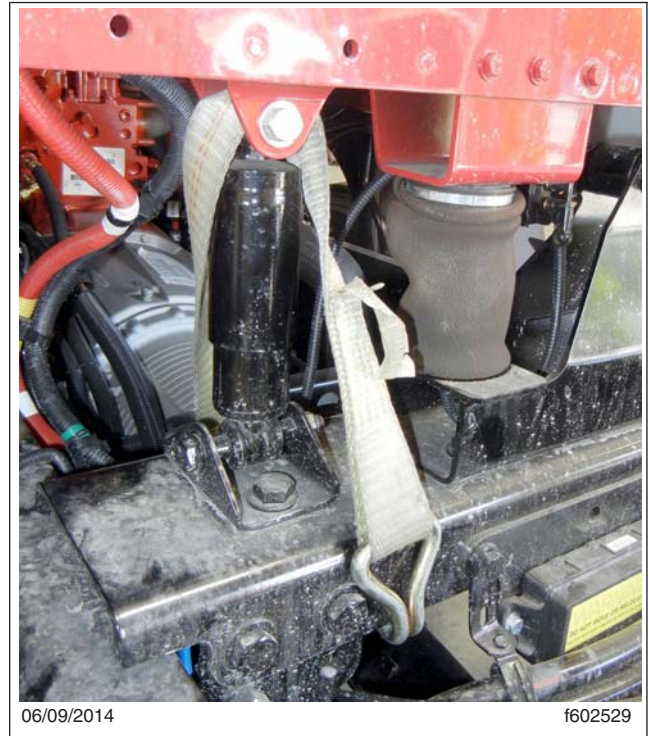

Fig. 24.7, Tension Strap Installed to Hold Down the Cab
- 1.2 Loop a 2-inch (5-cm) ratchet-style tension strap (rated 2000 lb [900 kg] minimum work load) over the top of the cab shock and under the frame rail. Tighten the strap for a snug fit. See Fig. 24.7. If the cab is equipped with two or more shocks, restrain the aftmost shock on each side of the vehicle.